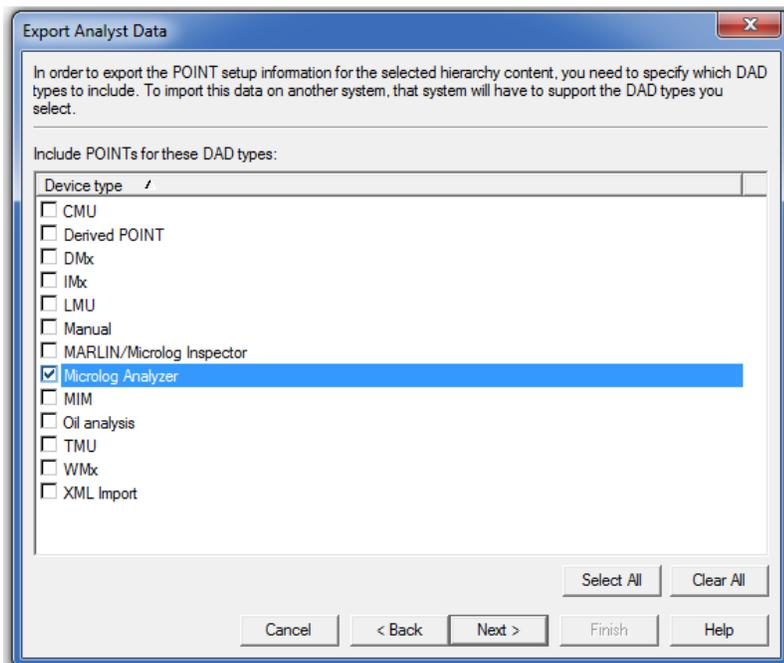

Figure 9. Select required DAD types
- Place a check in the box in the required DAD types, then click **Next >**. [Figure 9]